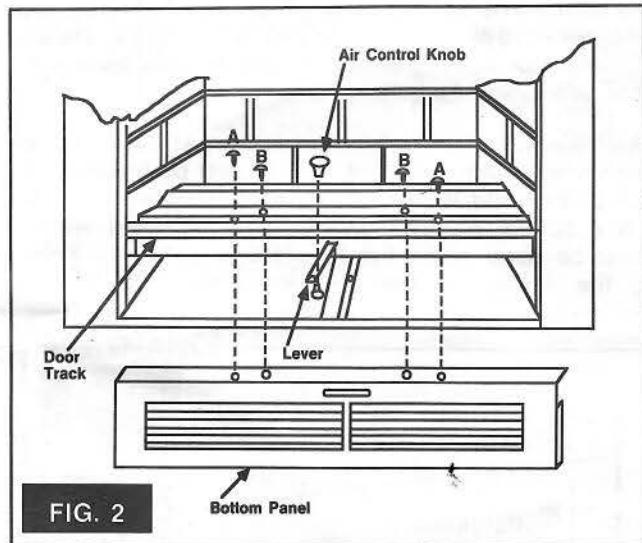

FIG. 2
2. Remove 2 screws (A) located in door track. (Fig. 2)
3. Remove 2 screws (B) located behind door track. (Fig. 2)
4. Remove air control knob (Fig. 2).